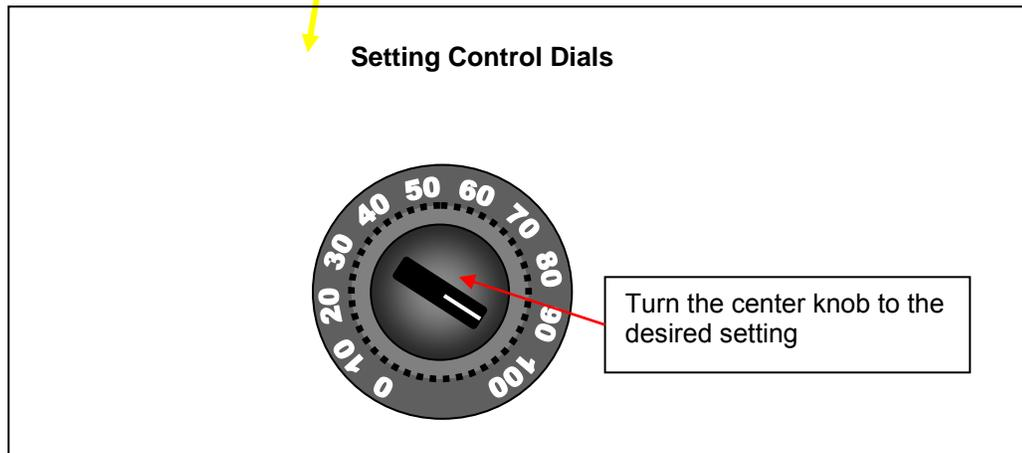

Figure III-12
3. When you have adjusted the feeder to operate properly, adjust the belt speed of the feeder to the desired running speed. See figure III-12.